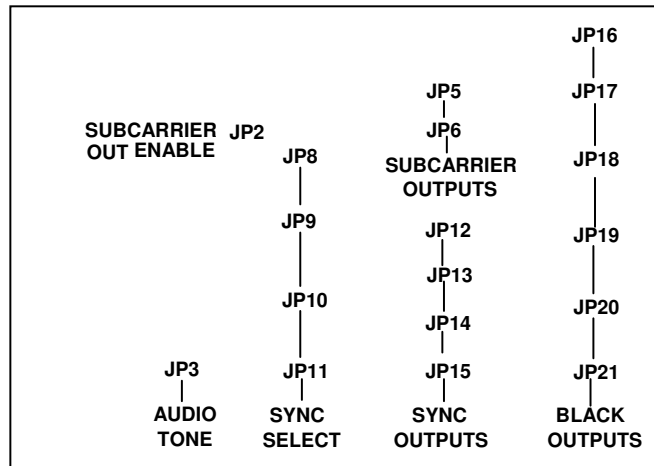

Figure 3-1, Circuit Board Connector Locations
3. Each of the rear panel BNC outputs connects to a signal on the BSG-50 circuit board using small 2-pin connectors. As shown in Figure 3-1, six blackburst signals are output on JP16, JP17, JP18, JP19, JP20, and JP21, the four sync signals on JP8, JP9, JP10, and JP11, and the two subcarrier signals on JP5 and JP6.